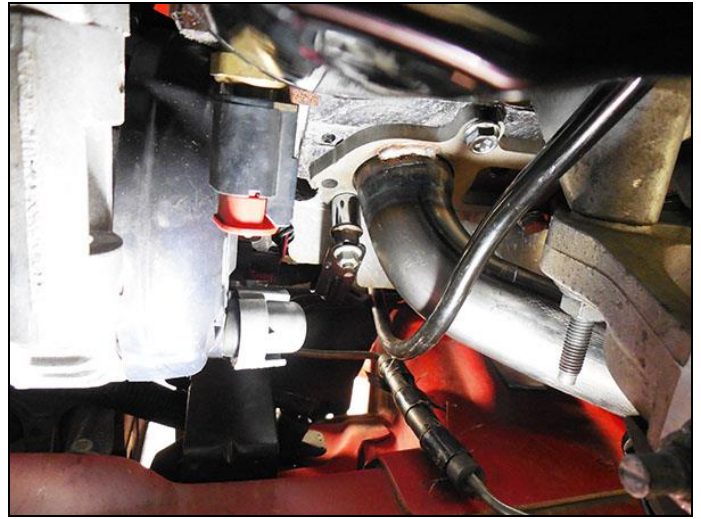

Figure 2 – Dipstick tube mounting bracket spacer w/ OEM bolt
4. Use a 13 mm box wrench to tighten the bottom two bolts closest to the starter. Tighten the bolts evenly in steps from the center out until all the bolts are tight. Repeat this process several times. For vehicles mounting the dipstick tube to the manifold bolt, reuse the O.E.M studded bolt and the supplied spacer to mount the dipstick in the factory location (See **Figure 2**).
13. Install the dipstick tube after checking the condition of the O-ring (replace if necessary). Vehicles with the dipstick tube mounted to the exhaust manifold bolt will re-use the factory studded bolt and the supplied spacer (**Figure 2**) to install the dipstick in the factory location. **VERIFY THE TUBE IS IN THE ENGINE BLOCK!!!**